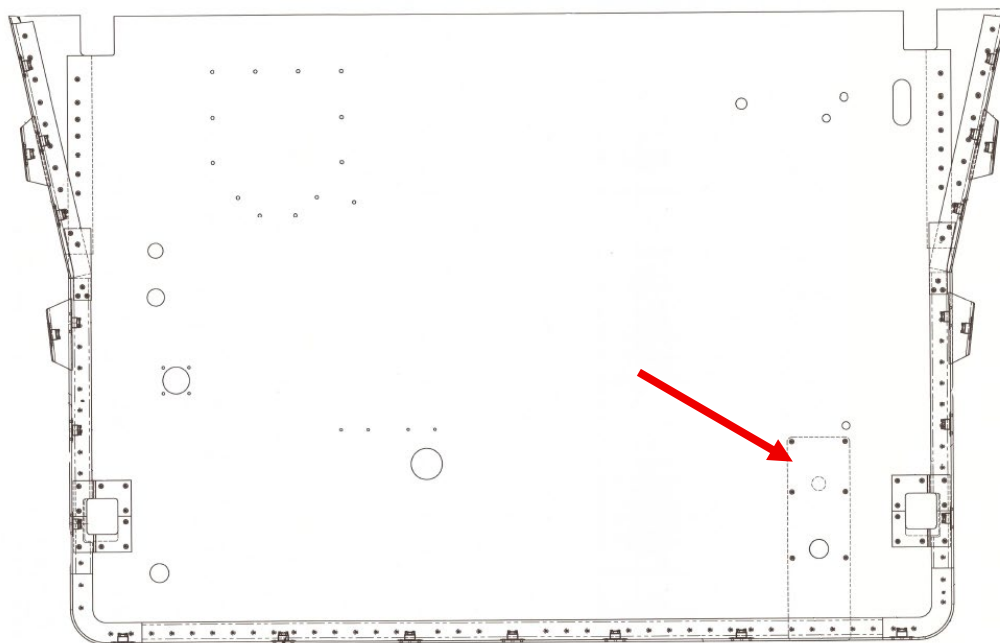

Figure 4
16. Install doubler to lower firewall using appropriate fasteners. (Reference Figure 4)